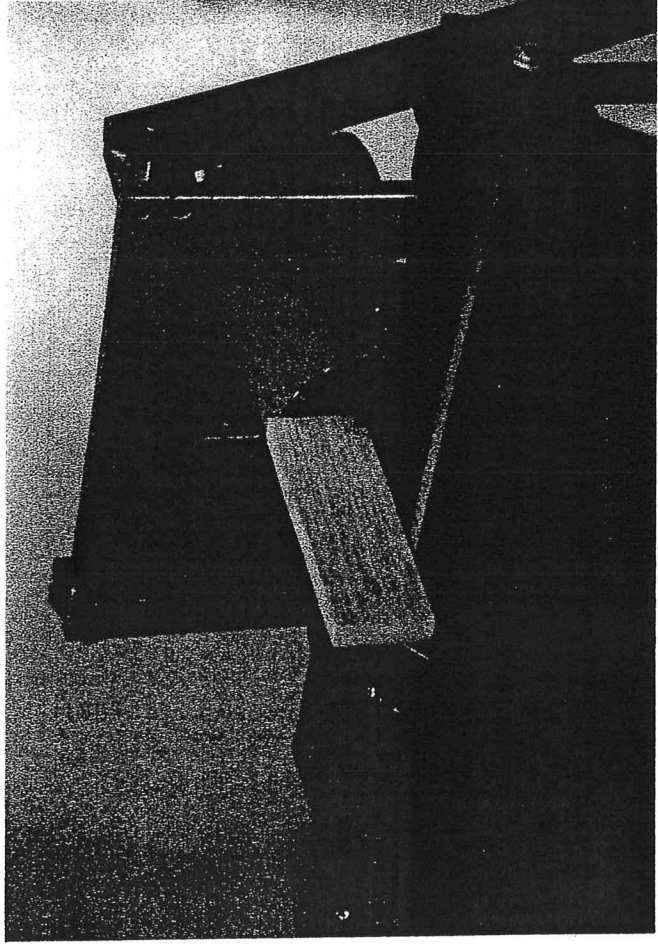

Fig. 17
3. Lower table 4 turns. With workpiece A on its edge, edge cut 1/2 of the first pin. (fig. 17)